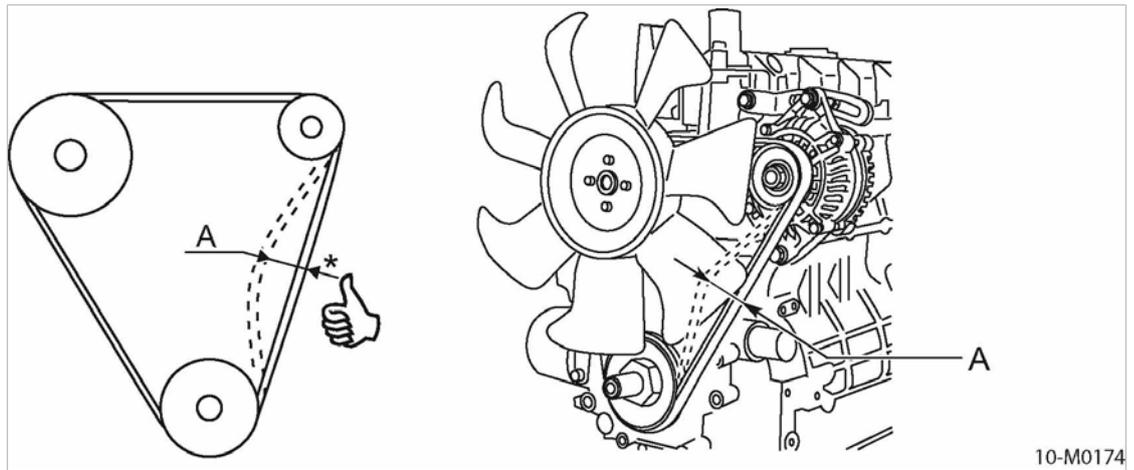

Fig. 36 Belt tension checking by hand
1. Check belt tension by hand (see Fig. 36).
6. Check the belt tension (see Fig. 36).